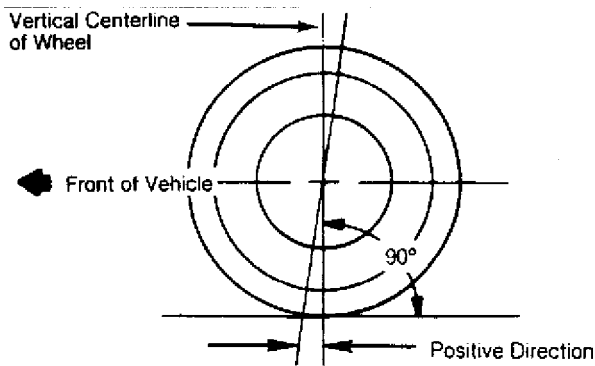

Fig. 4: Determining Caster Angle
- 1) Caster is tilting of front steering axis either forward or backward from vertical, as viewed from side of vehicle. See Fig. 4.